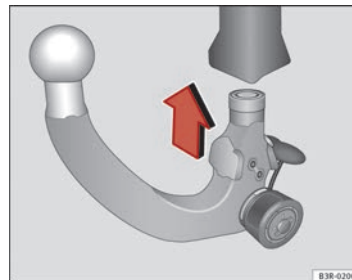

Fig. 159 Removable towing bracket: Inserting the ball joint
- With the spring mechanism in the ready position, insert the ball joint into the mounting fixture and push it upwards ⇒ Fig. 159 in the direction indicated (arrow) ⇒ **(A)**. It should lock into position automatically. You should now clearly hear it click into place.